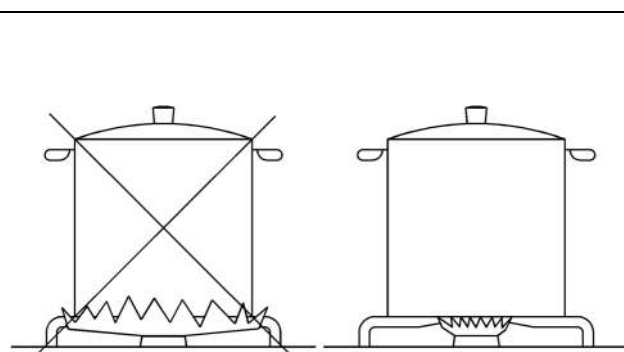

FIG. 2
- Use pots that match the burners (see Table below and Fig. 2).